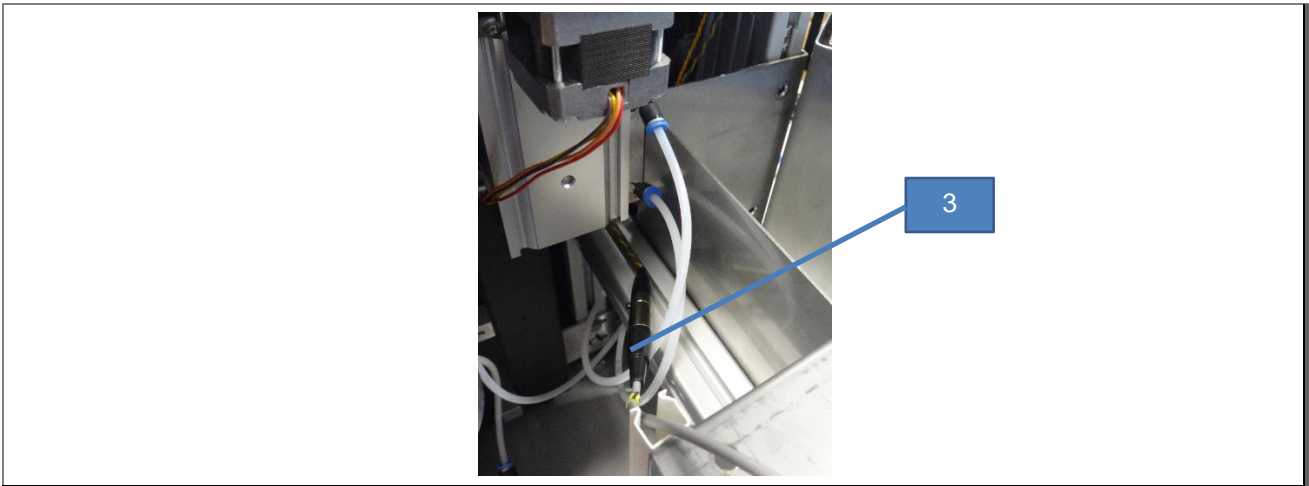

Fig. 9: Mini XLR connector
2. Release the mini XLR connector **(3)** (see Fig. 9: Mini XLR connector).